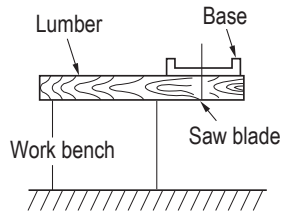

Fig. 17
- 5. Prepare a wooden work bench (Fig. 17)